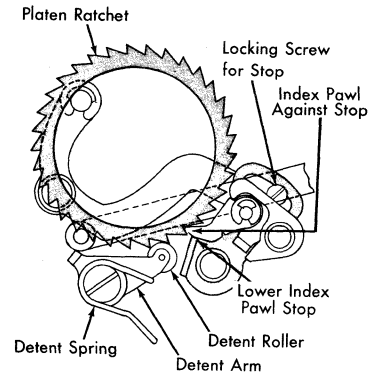

Figure 33. Lower Index Pawl Stop Adjustment
2. Adjust the lower index pawl stop to stop the travel of the index pawl at a point where the detent roller is fully seated between two ratchet teeth, so that the platen will not move after completion of the stroke (Figure 33).